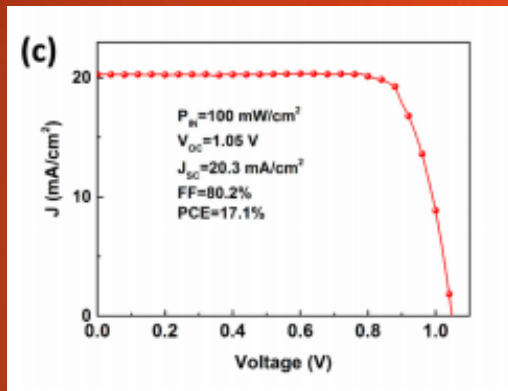

Figure 3. IV curve for best performance under 1 sun [5].
Fig. 3 The preparation of MAPbI_{3-x}Cl_x film from different deposition methods: (a) Dual source coevaporation using PbCl₂ and MAI source. (b) Sequential deposition by dipping the PbI₂ film into MAI solution. (c) One-step solution process based on the mixture of PbI₂ and MAI, and sequential coating of PbI₂ and MAI (d) Vapor-assisted solution process using the MAI organic vapor to react with the PbI₂ film. Adapted with permission from ref. (32, 33, 44 and 45). Copyright 2013 Nature Publishing Group, 2014 American Institution of Physics, 2014 American Chemical Society.